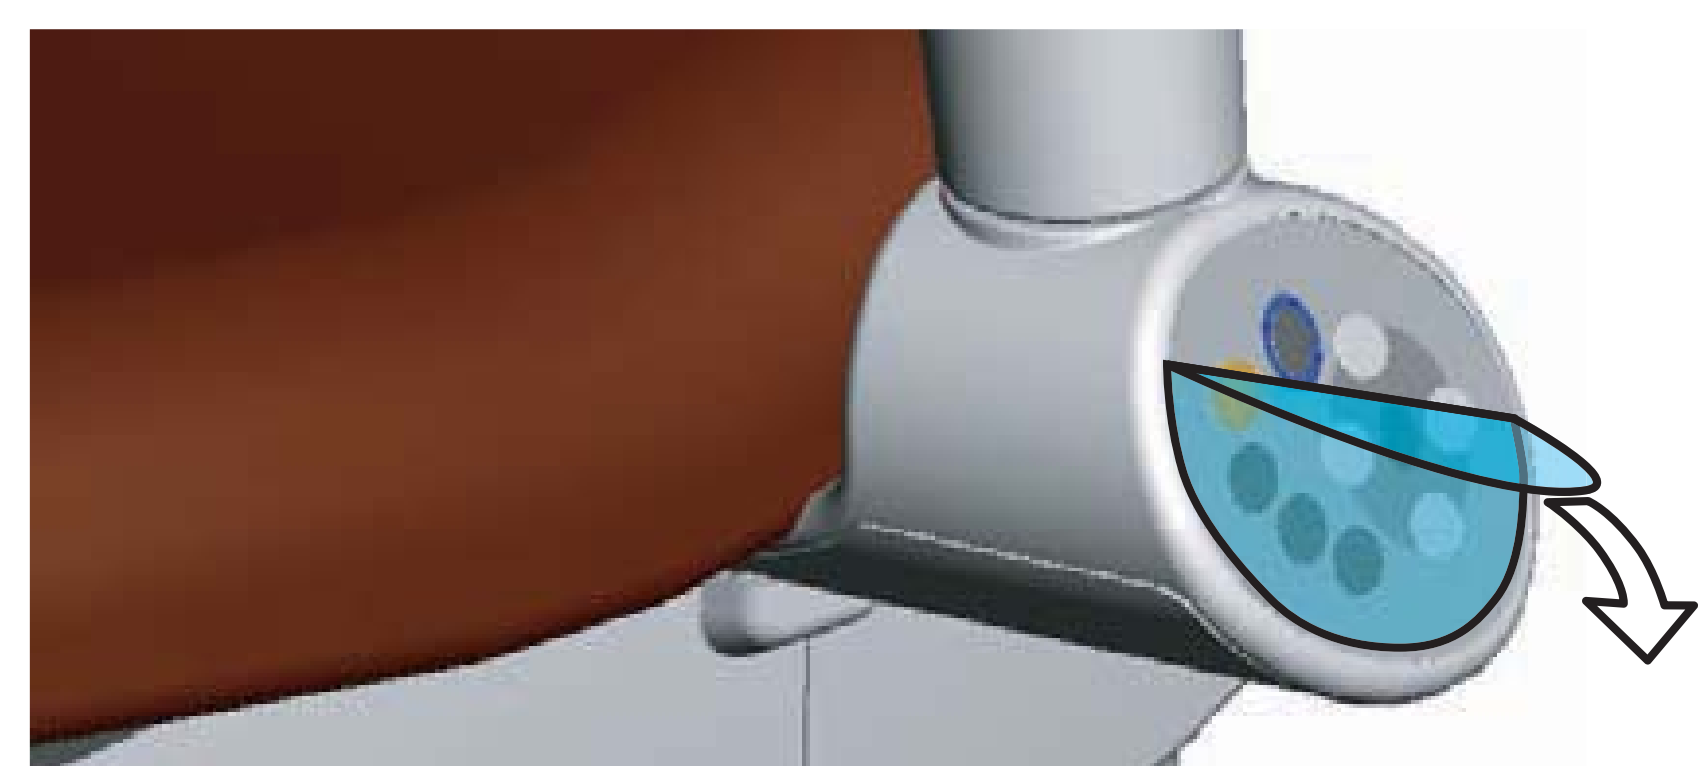

Fig. 5-15
3. Remove a protective plastic film on a touchpad control panel. (Fig.5-15)